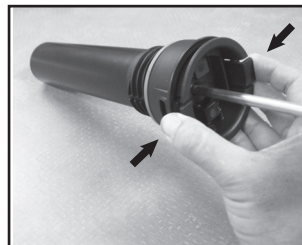

Figure 2
2. To remove pump cap from pump barrel, squeeze the tabs on the cap and pull away from barrel. **(See Figure 2)**